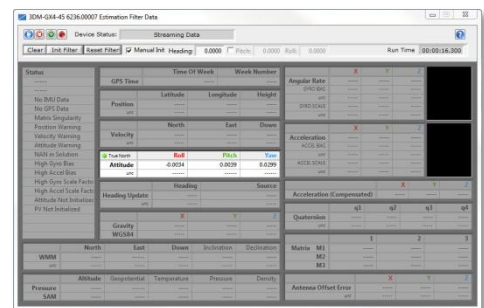

Figure 4: Estimation Filter Data window
1. Click View. Click EF Data Monitor and the Estimation Filter Data window appears as shown in Figure 4.